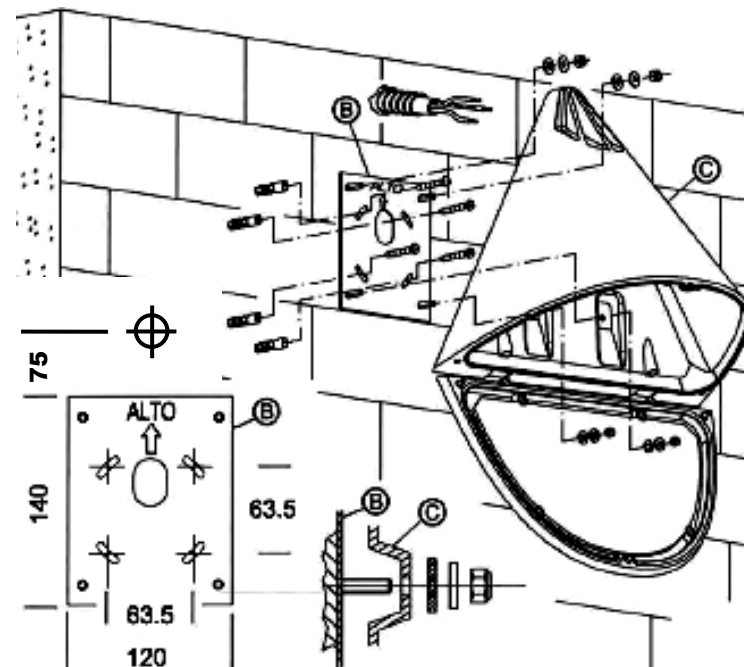

Fig. 2
5. Fix the plate to the chosen mounting surface using appropriate fixings (by others). Ensure that it is firmly fixed and well aligned. (fig 2)